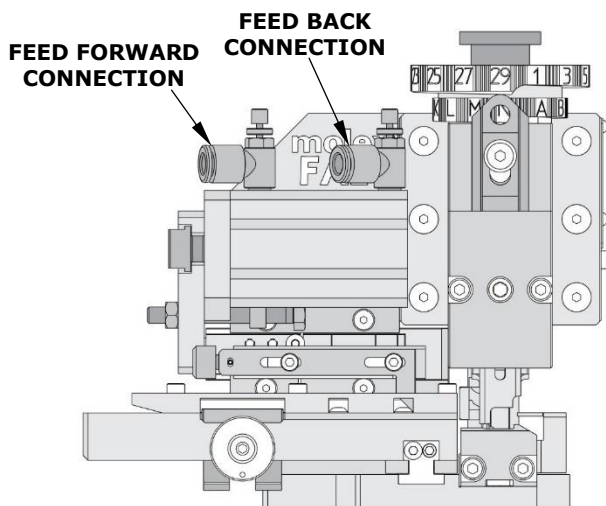

Figure 5
- Pneumatic tubes must be connected as shown in Figure 5. Tubes are typically connected so the terminal feed is forward when the applicator ram is up.